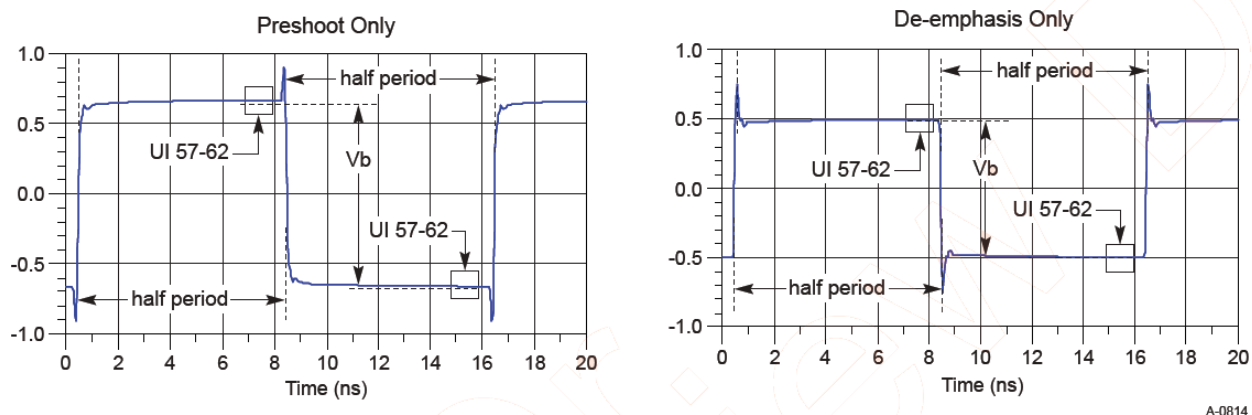

Figure 187 Waveform measurement points for preshoot and de-emphasis
8.0 GT/s, 16.0 GT/s and 32.0 GT/s PCIe signaling must support the full range of presets given in Table 8-1 (PCIe Base Specification Revision 5.0). Presets are defined in terms of ratios, relating the pre-cursor (V_c) is referred to as pre-shoot, while the post-cursor (V_b) is referred to as de-emphasis. This convention permits the specification to retain the existing 2.5 GT/s and 5.0 GT/s definitions for Tx equalization, where only de-emphasis is defined, and it allows preshoot and de-emphasis to be defined such that each is independent of the other. The tolerances in Table 8-1 (PCIe Base Specification Revision 5) also apply to 2.5 and 5.0 GT/s de-emphasis. The maximum swing, V_d , is also shown to illustrate that, when both c_{+1} and c_{-1} are nonzero, the swing of V_a does not reach the maximum as defined by V_d . The high frequency nature of PCIe signaling makes measurement of single UI pulse heights impractical. Consequently all amplitude measurements are made with low frequency waveforms as shown in Figure 187.